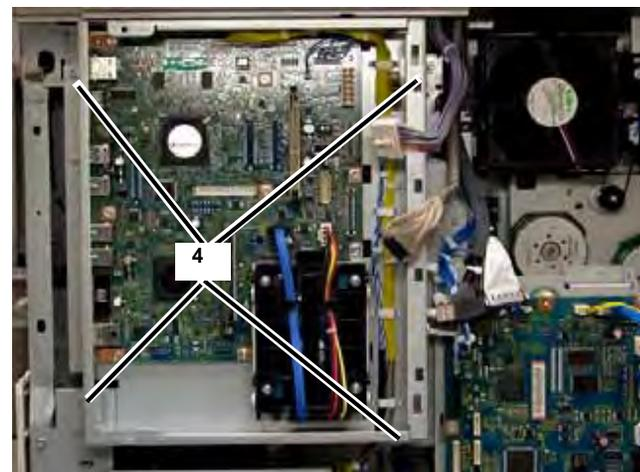

Figure 3 Removing Screws
4. Remove the ESS Chassis Assembly Screws (4), then lift up and remove (Figure 3).